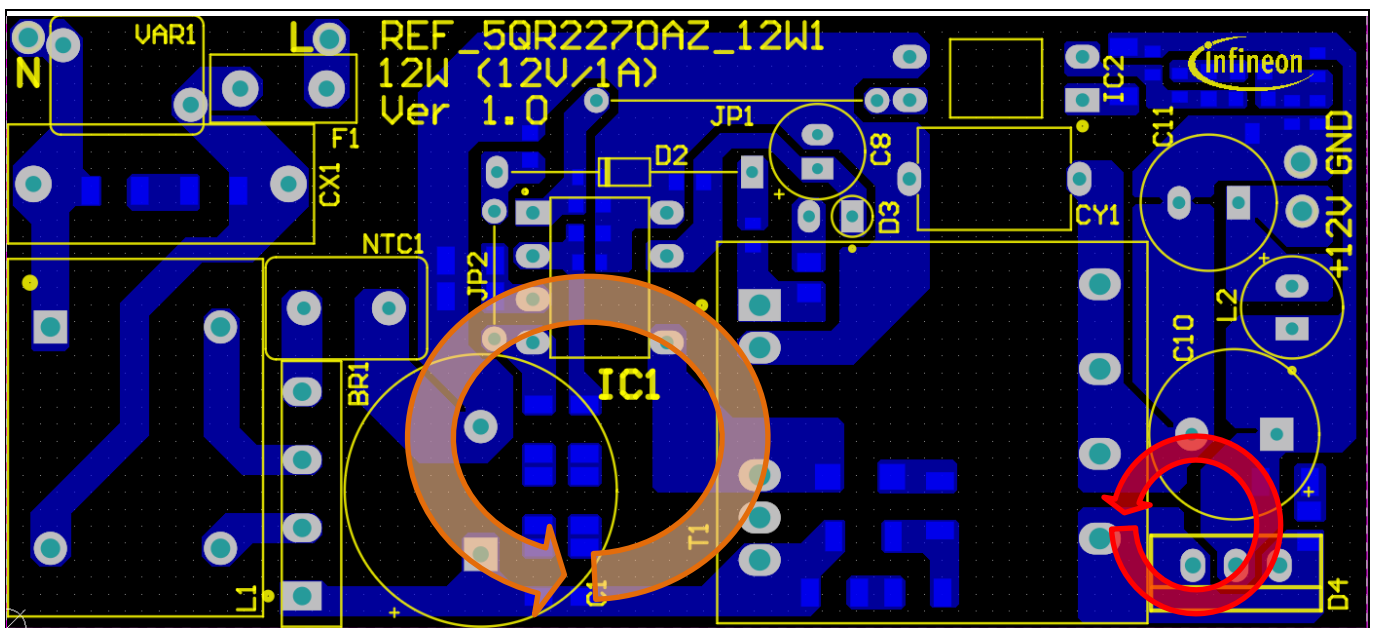

Figure 4 PCB layout tips
- The switching power loop needs to be as small as possible (see Figure 4). There are two power loops in the reference design; one on the primary side and one on the secondary side. The primary-side loop starts from the bulk capacitor (C1) positive terminal, primary transformer winding (pin 4 and pin 6 of T1), CoolSET™, CS resistors and back to the C1 negative terminal. The secondary-side loop starts at the secondary transformer winding (pin 8 of T1), output diode D4, output capacitor C10 and back to pin 11 of T1.